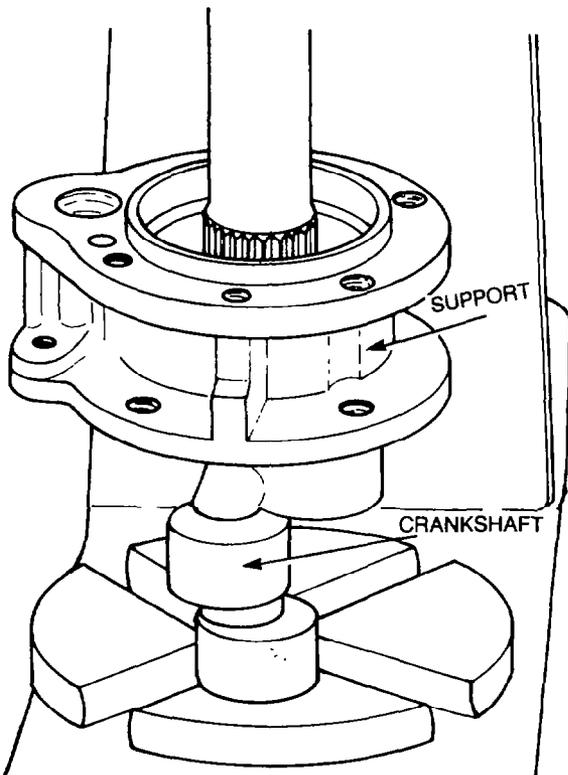

Figure 253 — Drive Coupling — Installation
h. Using a suitable press, support the crankshaft as shown in Fig. 253 and press the drive coupling onto the crankshaft until it seats firmly against the thrust washer. Measure the clearance between the support and the crankshaft mating surface. The standard clearance is 0.06-0.18 mm (0.002-0.007 in.) and the wear limit is 0.69 mm (0.027 in.).